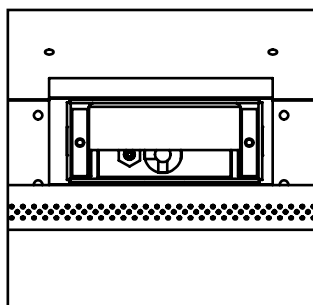

Figure 21. Ignitor assembly beside the burner.
10. Reinstall the burner, brick panels, log set, embers, and glass door. Also refer to SECONDARY INSTALLATION - INSTALLING LOG SET AND EMBERS in your Owner's Manual. When re-installing the burner, ensure that the burner to pilot hood relationship is similar to what is shown in Figure 21.